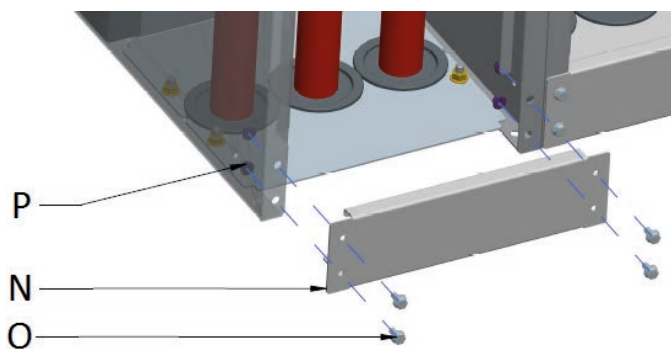

Figure 24: Fix the front side of the cable compartment
- Finally the steel angle of the cable compartment (Figure 24 N) must be fixed again with the 4 hexagonal head bolts and nuts (Figure 24 O+P)